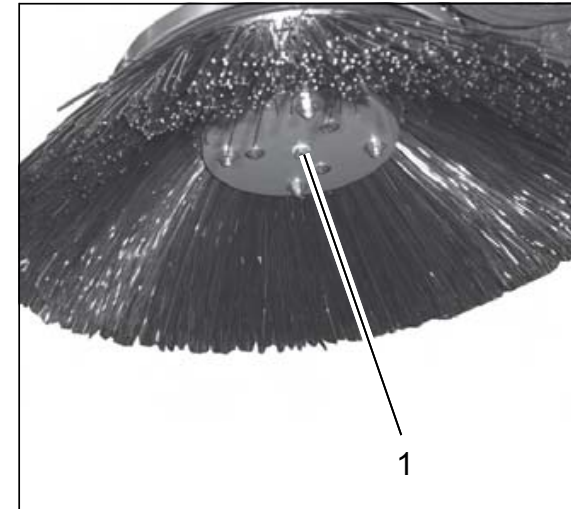

Fig.17
- Loosen hexagonal nut (Fig. 17/1) below the side broom.